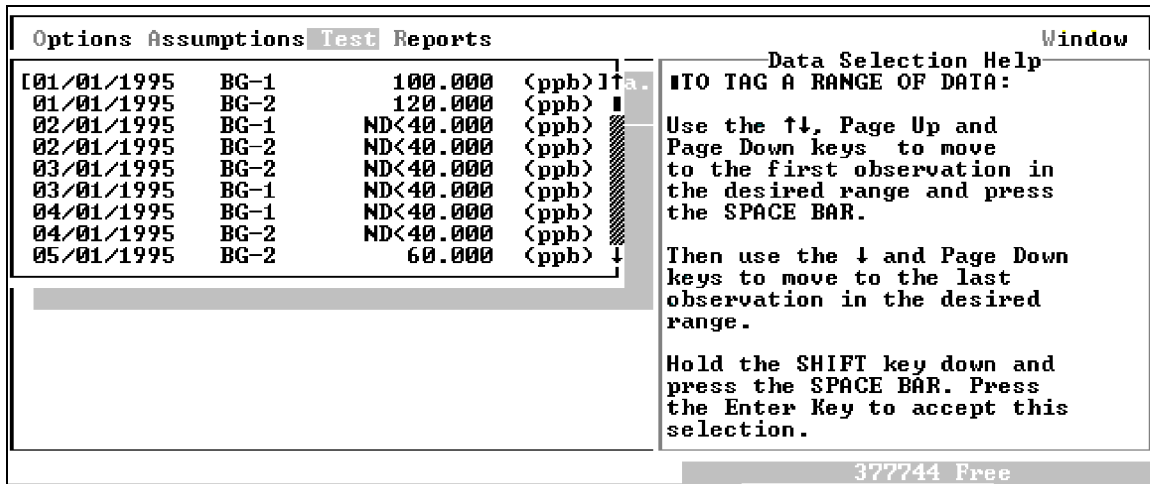

Figure 5-68. The Data Selection dialog.
2. The Data Selection dialog appears on your screen as shown in Figure 5-68.